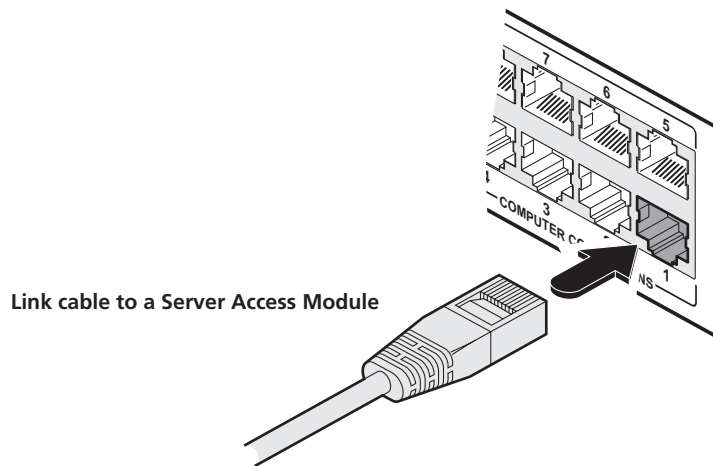

Figure 3-5. Connecting a SAM link cable.
- 2 Connect a CAT 5, 5e or 6 link cable to one of the COMPUTER CONNECTIONS ports. See Figure 3-5.